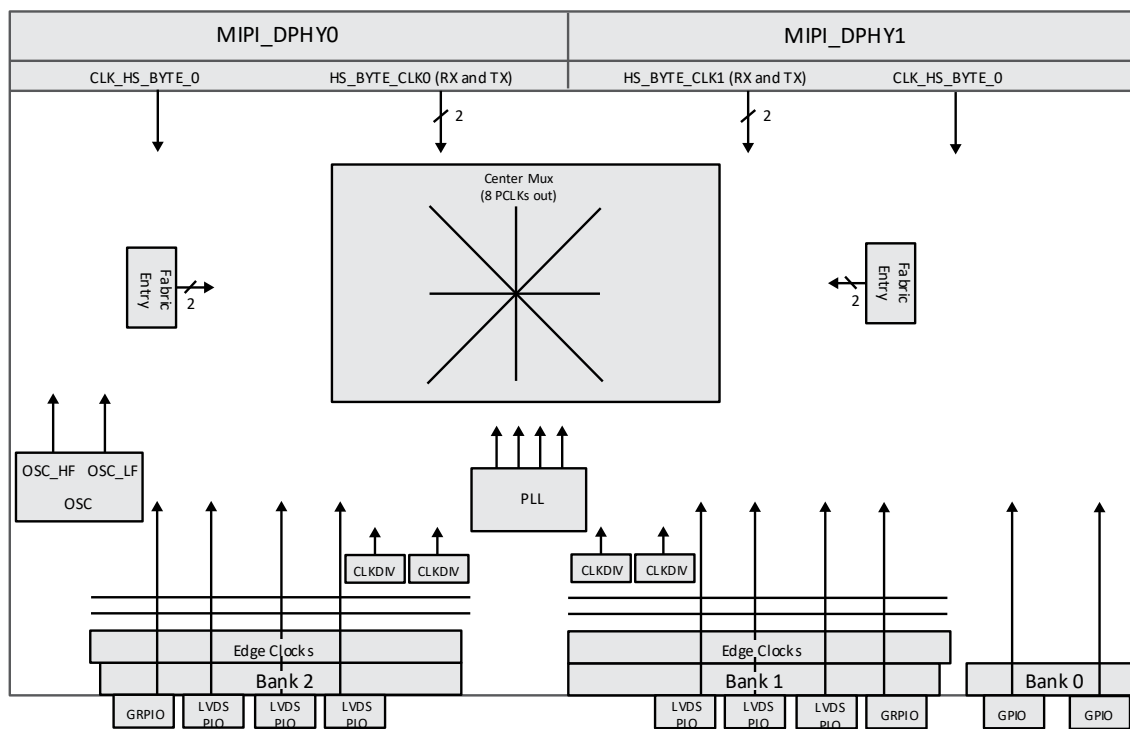

Figure 3.12. CrossLinkPlus Clocking Structure
- The routing clock structure is shown in Figure 3.12.
The CrossLinkPlus device has Edge Clocks (ECLK) at the bottom two banks (Bank 1 and Bank 2) of the device (Figure 3.12). The CrossLinkPlus device has two edge clocks per Programmable I/O bank. These clocks, which have low injection time and skew, are used to clock I/O registers. Edge clock resources are designed for high speed I/O interfaces with high fan-out capability. The sources of edge clocks are: